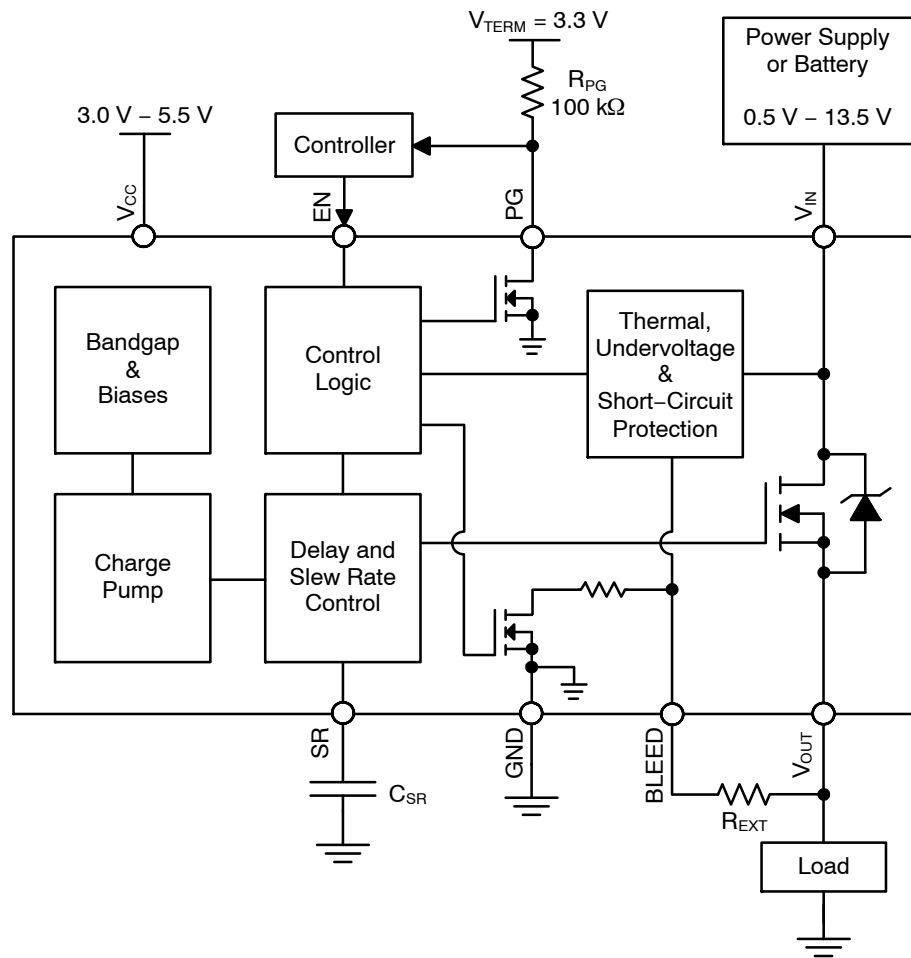
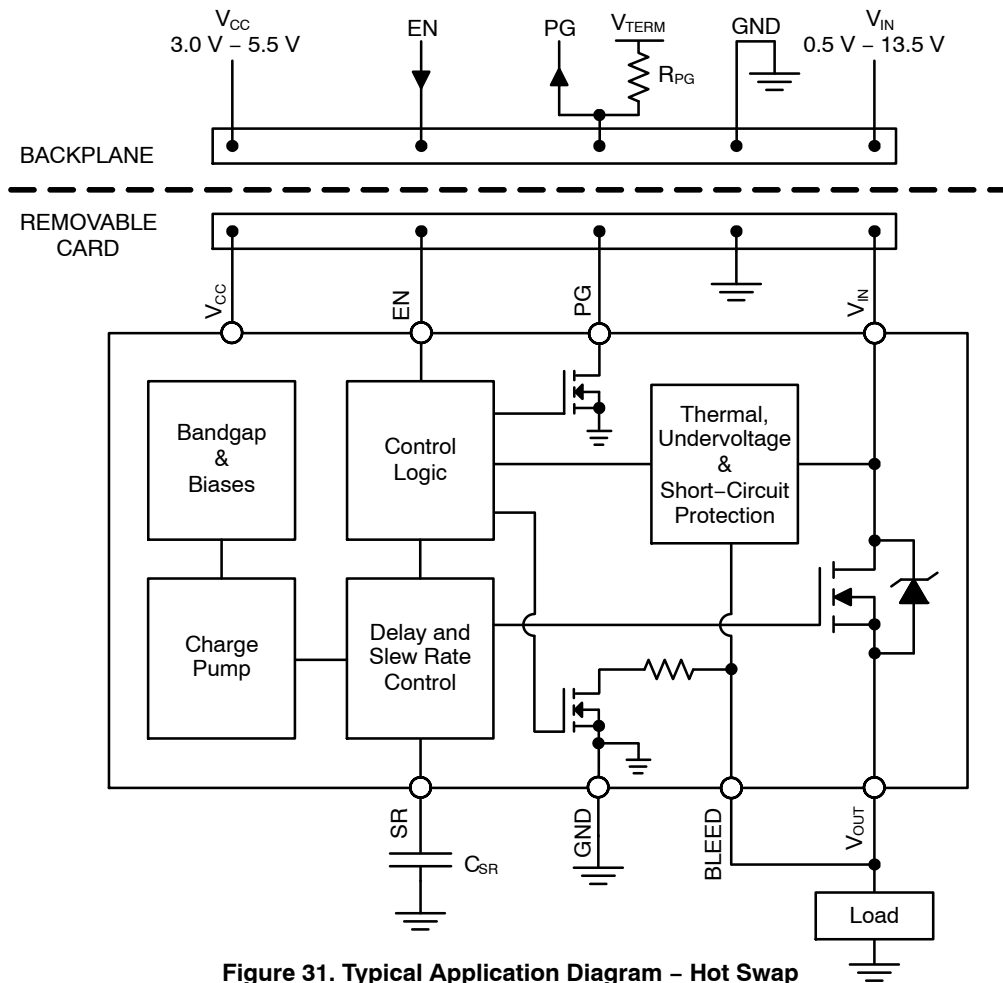

Figure 30. Typical Application Diagram – Load Switch
Figure 31. Typical Application Diagram - Hot Swap
It is required that the BLEED pin be connected to  $V_{OUT}$  either directly (as shown in Figure 31) or through an external resistor,  $R_{EXT}$  (as shown in Figure 30).  $R_{EXT}$  should not exceed 1 k $\Omega$  and can be used to increase the total bleed resistance.
The NCP45540 devices have a power good output (PG) that can be used to indicate when the gate of the MOSFET is fully charged. The PG pin is an active-high, open-drain output that requires an external pull up resistor,  $R_{PG}$ , greater than or equal to 1 k $\Omega$  to an external voltage source,  $V_{TERM}$ , compatible with input levels of other devices connected to this pin (as shown in Figures 30 and 31).
The slew rate can be decreased with an external capacitor added between the SR pin and ground (as shown in Figures 30 and 31). With an external capacitor present, the slew rate can be determined by the following equation:
Once active, the circuitry monitors the difference in the voltage on the  $V_{IN}$  pin and the voltage on the BLEED pin. In order for the  $V_{OUT}$  voltage to be monitored through the BLEED pin, it is required that the BLEED pin be connected to  $V_{OUT}$  either directly (as shown in Figure 31) or through a resistor,  $R_{EXT}$  (as shown in Figure 30), which should not exceed 1 k $\Omega$ . With the BLEED pin connected to  $V_{OUT}$ , the short-circuit protection is able to monitor the voltage drop across the MOSFET.